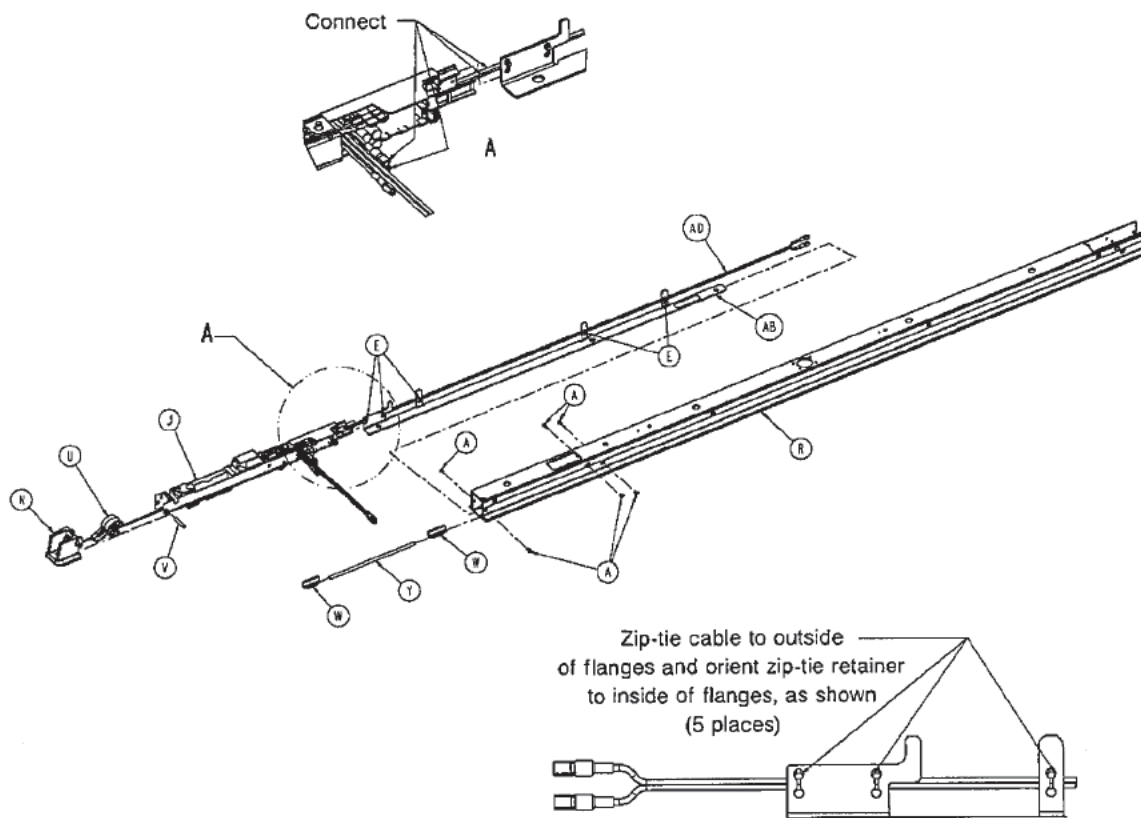

Figure 41
8. Lift one of the two manual cot release handles at the head end of the trolley to unlock the cot as shown in Figure 41.